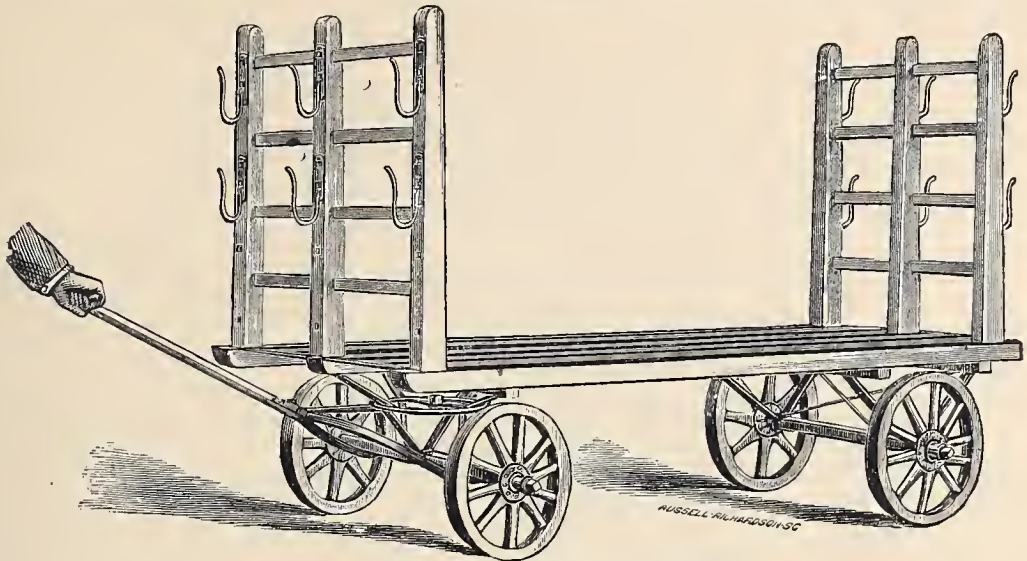

Fig. 514. — Four-Wheel Express-Truck.
*The Four-Wheel Express-Truck*, represented by *Fig. 514*, has been adopted by the leading express companies throughout the country, and is giving perfect satisfaction. The materials used are of the best quality; the barrow is thoroughly iron braced and strapped throughout, and is handsomely painted and lettered to order. We make all sizes, from five feet to twelve feet in length, and various widths.